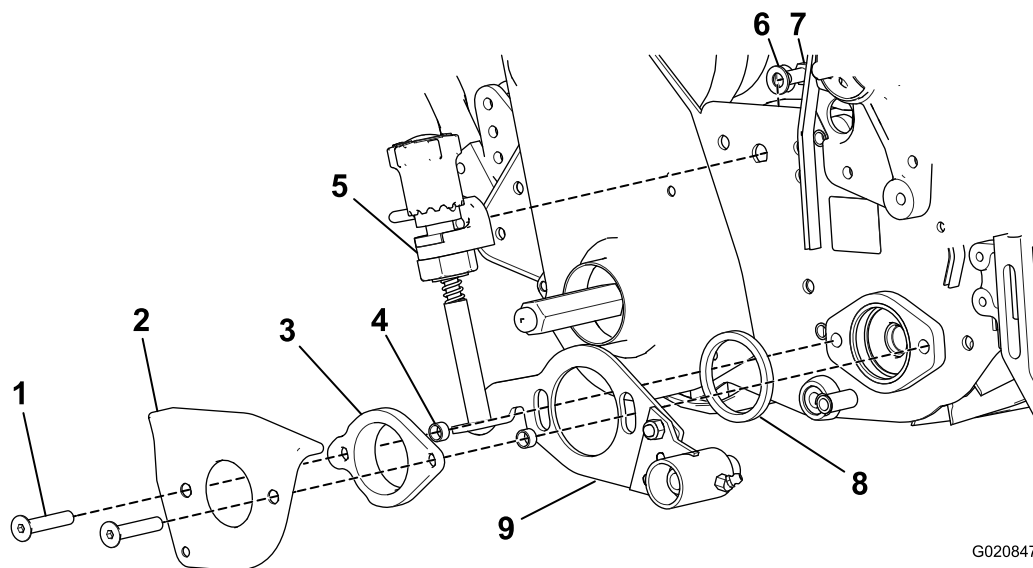

Figure 19
6. Remove the groomer arm cover (Figure 19); retain the flat-head screws and discard the spacers under the cover.
8. Remove the curved washer and the bolt (3/8 x 5/8 inch) from the adjustment-knob, mounting block (Figure 19).
9. Insert an adapter ring into the reel-bearing housing (Figure 19).
10. Insert the 2 flat-head screws (3/8 x 2 inch) through the groomer arm cover and the bearing adapter and put a spacer over each screw (Figure 19).
assembly and into the reel bearing housing (Figure 19).
13. Secure the mounting block of the groomer adjustment knob assembly to the right side plate with the bolt (3/8 x 5/8 inch) and curved washer removed previously (Figure 19).